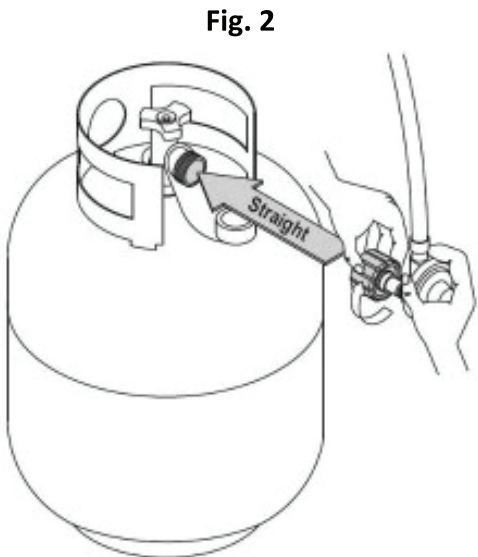

Fig. 2
5. Hold regulator by one hand in a straight line with LP tank valve and insert nipple into LP tank valve. Be sure the nipple is centered in the valve outlet. (see Fig. 2). Hand-tighten coupling nut clockwise until it comes to a full stop. DO NOT use tools!